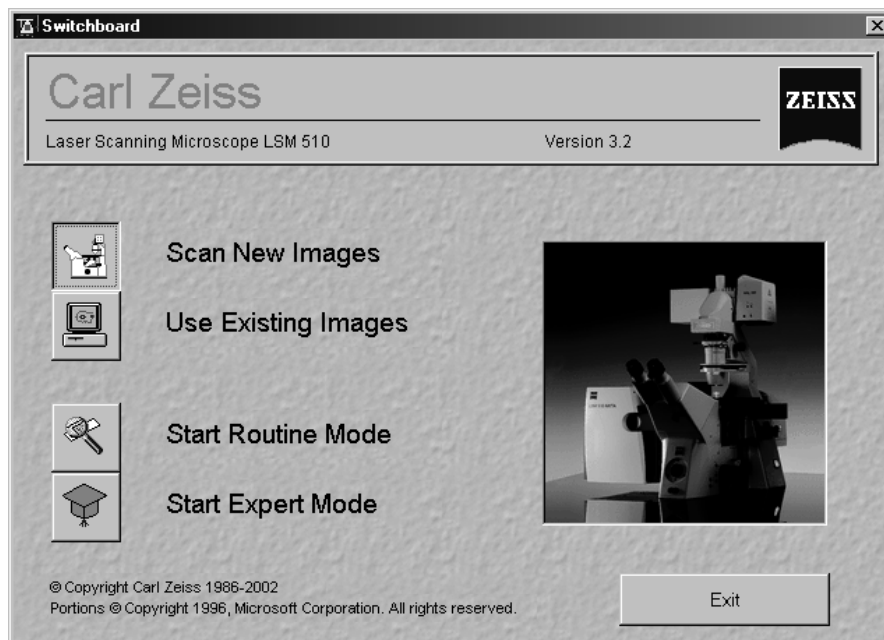

Fig. 4-8 LSM 510 Switchboard menu
- The **LSM 510 Switchboard** menu appears on the screen (see Fig. 4-8).